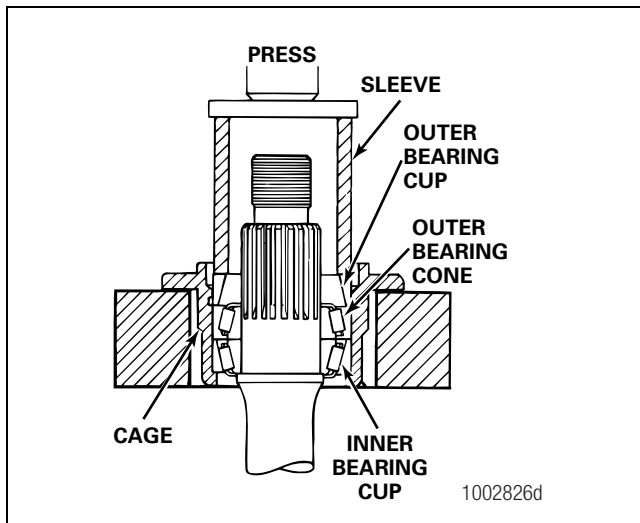

Figure 5.5
4. Use a press and sleeve to install the outer bearing cup into the cage over the thru-shaft. Figure 5.5.